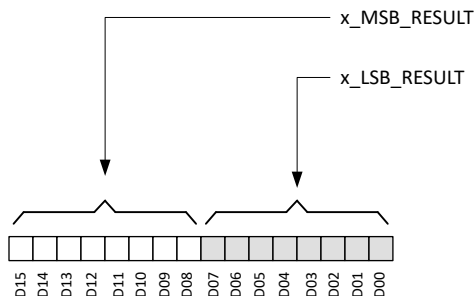

Figure 7-15. Magnetic Sensor Data Definition
The X, Y, and Z magnetic sensor data are stored in x_MSB_RESULT and x_LSB_RESULT registers. Figure 7-15 shows that each sensor output stored in a 16-bit 2's complement format in two 8-bit registers. The data can be retrieved as 16-bit format combining both MSB and LSB registers, or as 8-bit format through the MSB register.
- D_i is the data bit shown in Figure 7-15.